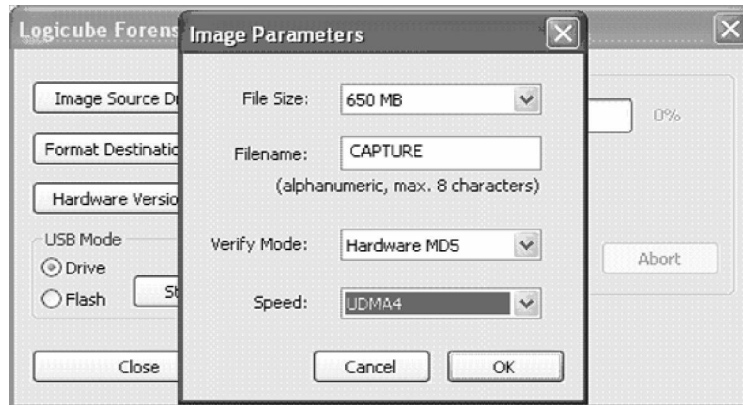

Figure 14 – Image Parameters Screen
4. A Settings Window will appear where the Case name can be entered. The user can also set the size of Image Files, Speed and Verify settings. Please refer to Figure 14 below: